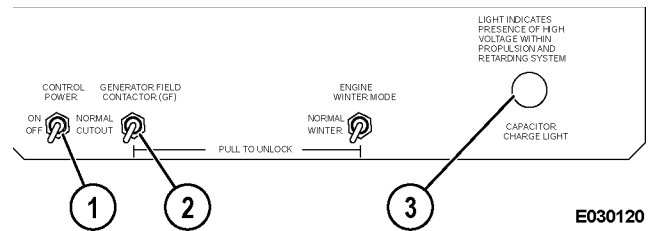

FIGURE 00-4. INFORMATION DISPLAY PANEL
- The generator field is cut out via GF cutout switch (2, Figure 00-4) in the low voltage area of the control cabinet.
1. Apply control power for a minimum of 30 seconds. Then, turn off control power using control power switch (1) on the switch panel.